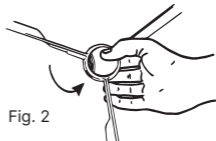

Fig. 2
- b. Roll bearing ball out from bottom of support (Fig. 2).